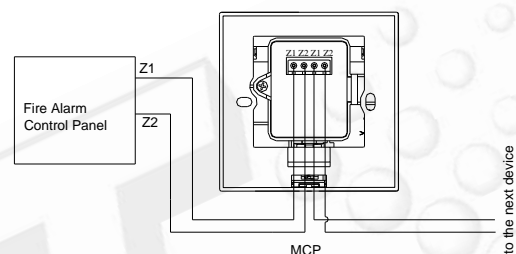

Fig. 2
1. Application of the MCP is shown in Fig. 2